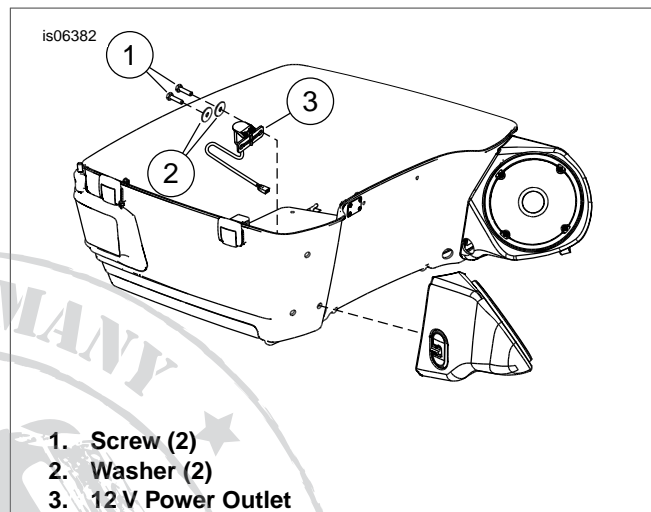

Figure 1. Installation with Speaker Pod
2. See Figure 1. Remove the two lower mounting screws (1) and washers (2) for the right speaker pod.